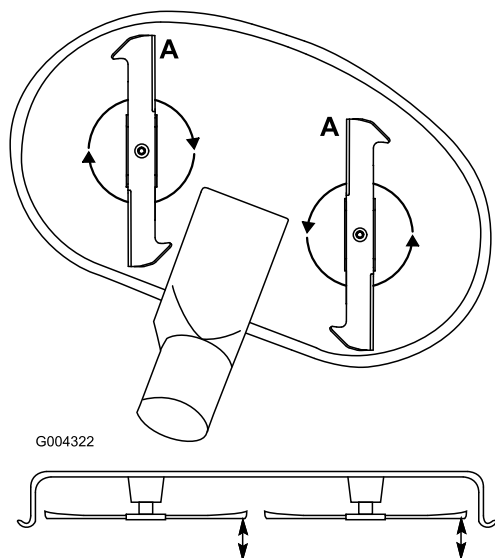

Figure 48
1. Rotate the blades until the ends face forward and backward (Figure 48). Measure from a level surface to the cutting edge, position **A**, of the blades (Figure 48). Note this dimension.